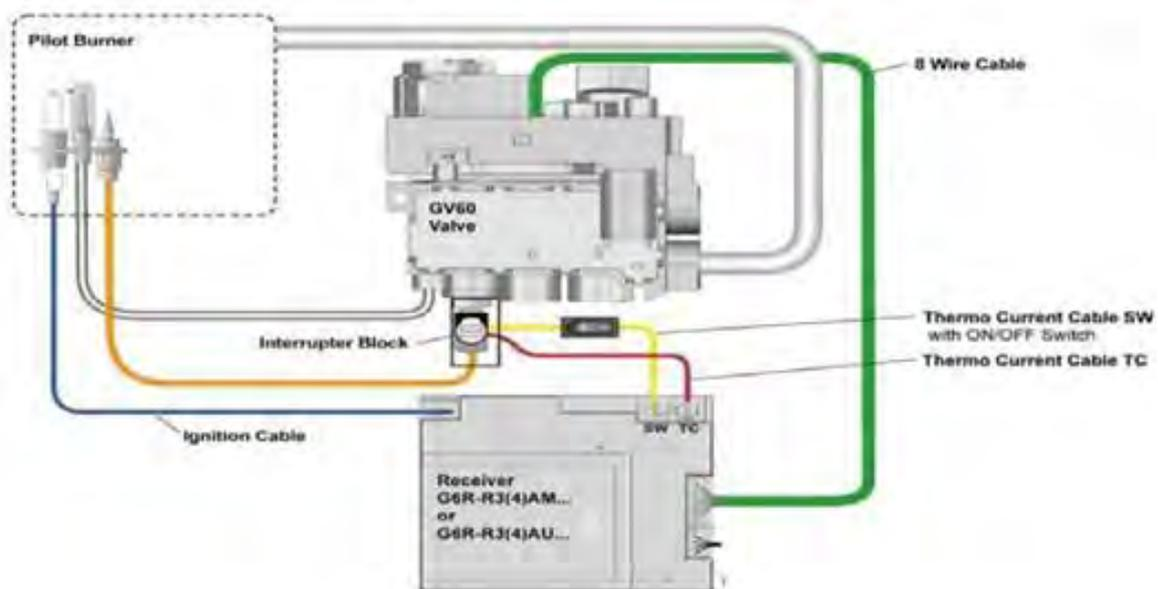

Figure 27: Valve/Receiver Wires and Interrupter Block
6. Verify that all wire connections are tight. Then, check that the interrupter block is screwed in tightly but not too tightly (tightening the interrupter block too much will break it). Refer to Figure 27 on page 131 for details.
- b) Disconnect the wire for the spark wire. Refer to Figure 27 on page 131 for details.
Perform these steps to check the thermocouple. Refer to Figure 27 on page 131 for details.